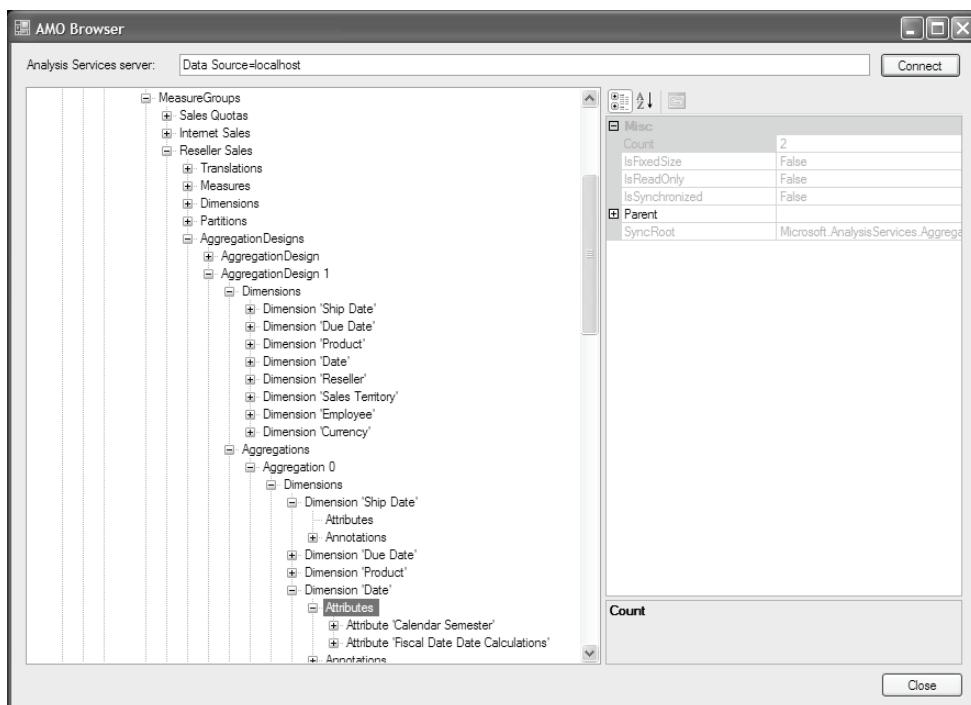

Figure 14.17 Use the AMO Browser application to examine the aggregation design.
5. One of the child nodes of the Reseller Sales measure group is AggregationDesigns (see Figure 14.17). In my case, there are six aggregation designs. Your results may vary.